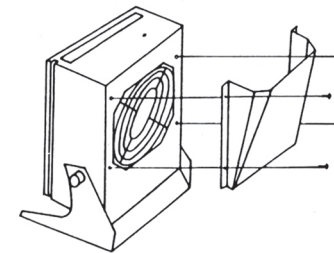

Fig. 1.
1. Install the Exhaust Air Director with 4 screws as shown in Fig. 1.